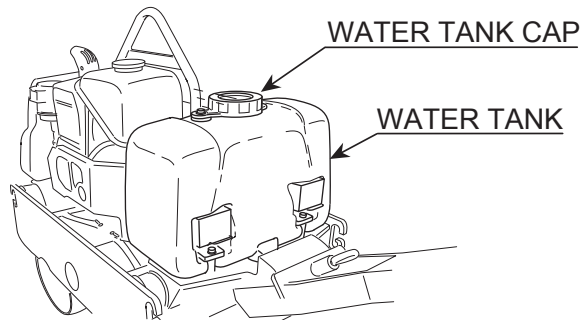

Figure 6. Checking Water Tank
1. Check the water tank to see if filled. Add water if necessary. The water tank has a capacity of approximately 10 gallons (40 liters). See Figure 6.